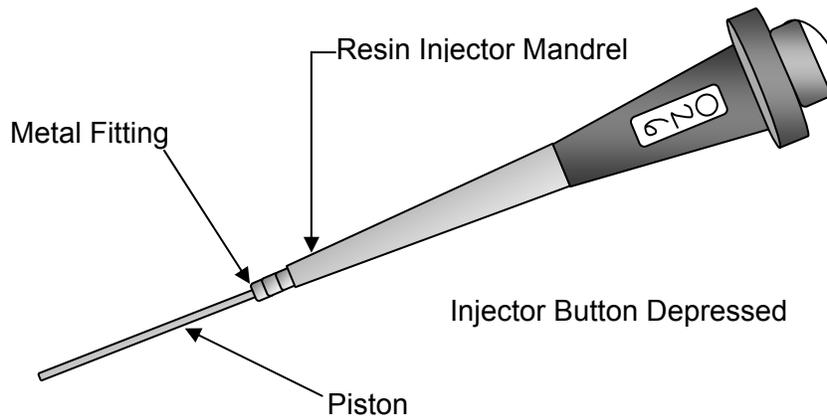

Figure 7-27 – Installing the Piston into the Resin Injector Mandrel
Step 5 - Completely depress the injector push button and insert the new piston into the metal fitting of the injector mandrel until it locks into place. Release the injector push button. See Figure 7-27.